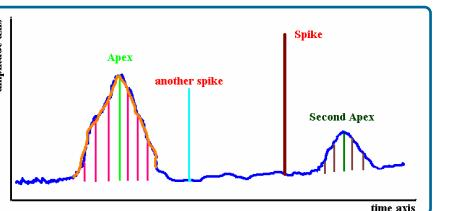

Fig 1. Chromatogram with 2 peaks and spikes
**Step 1:** The input to the algorithm are the x/y data points in the chromatogram (see Fig. 1, illustrated chromatogram with 2 peaks and 2 spikes).